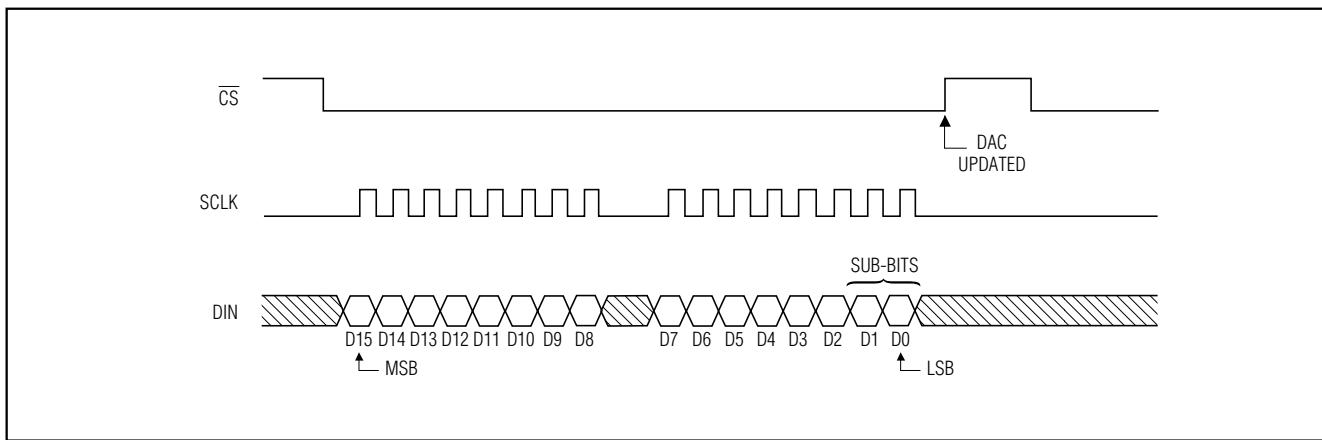

Figure 3. MAX5441–MAX5444 3-Wire Interface Timing Diagram
The MAX5441–MAX5444 digital interface is a standard 3-wire connection compatible with SPI/QSPI/MICROWIRE interfaces. The chip-select input (CS) frames the serial data loading at the data-input pin (DIN). Immediately following CS's high-to-low transition, the data is shifted synchronously and latched into the input register on the rising edge of the serial clock input (SCLK). After 16 data bits have been loaded into the serial input register, it transfers its contents to the DAC latch on CS's low-to-high transition (Figure 3). Note that if CS is not kept low during the entire 16 SCLK cycles, data will be corrupted. In this case, reload the DAC latch with a new 16-bit word.